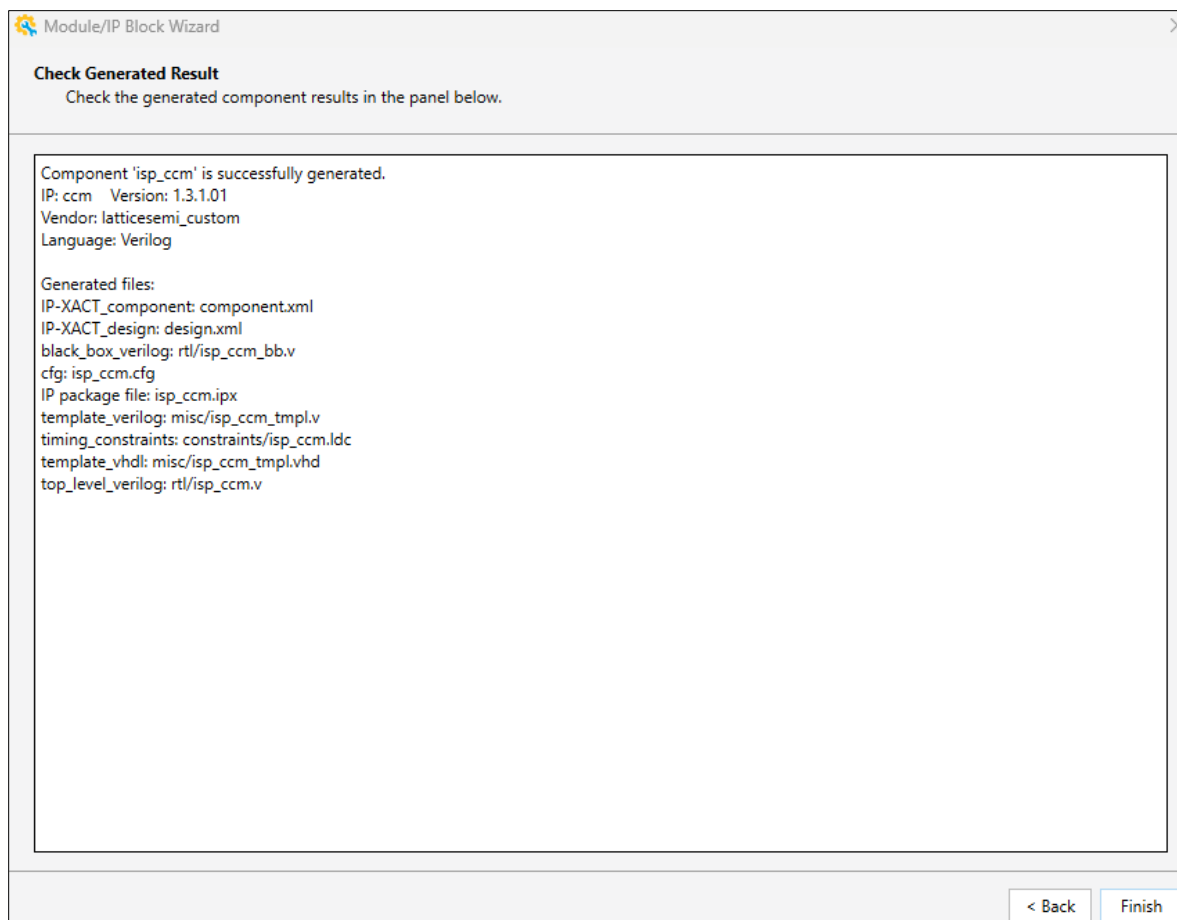

Figure 7.10. Color Correction Matrix IP Check Generated Result Window
4. After the generation is completed, click **Finish** in the **Check Generated Result** window (Figure 7.10).